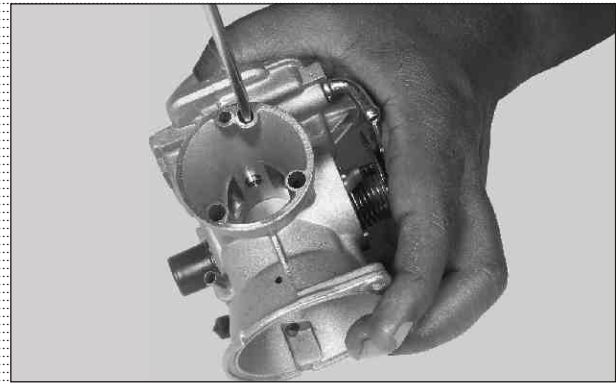

Fig. 4.27
- Remove air jet from the mixing body located at the air filter end. (Fig. 4.27)